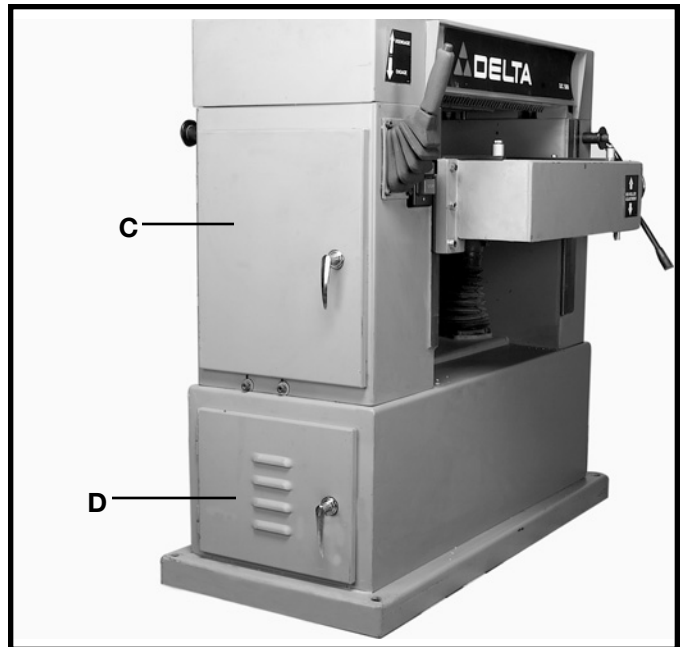

Fig. 18
5. Open two doors (C) and (D) Fig. 18, located on the left side of the machine.